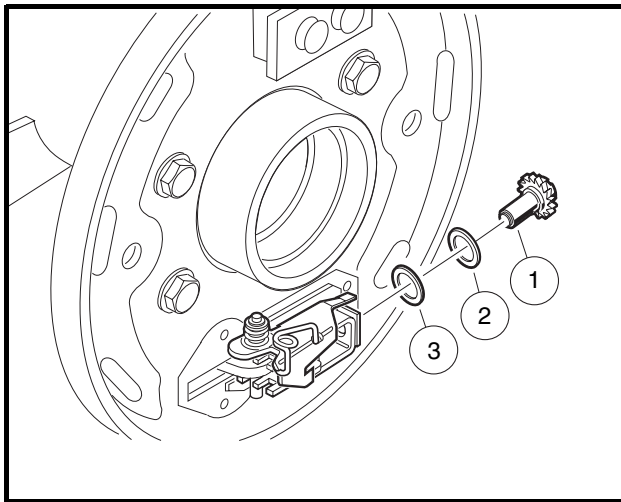

Figure 6-7 Remove Adjuster Wheel
9. Remove adjuster wheel (1) with two washers (2 and 3) from the backing plate (Figure 6-7, Page 6-4).
7. Install the adjuster wheel (1) and two washers (2 and 3) into the adjuster assembly (**Figure 6-7, Page 6-4**).